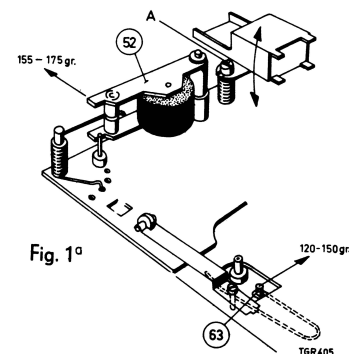

Fig. 1a
- . Adjust for maximum output voltage with screw A (fig. 1A).
- . The force needed for pulling the pressure roller clear of the capstan, must be between 155-175 gr. fig. 1A.
- . The pressure of the pulley of the friction against the right-hand turntable must be between 120 and 150 gr. fig. 1A.